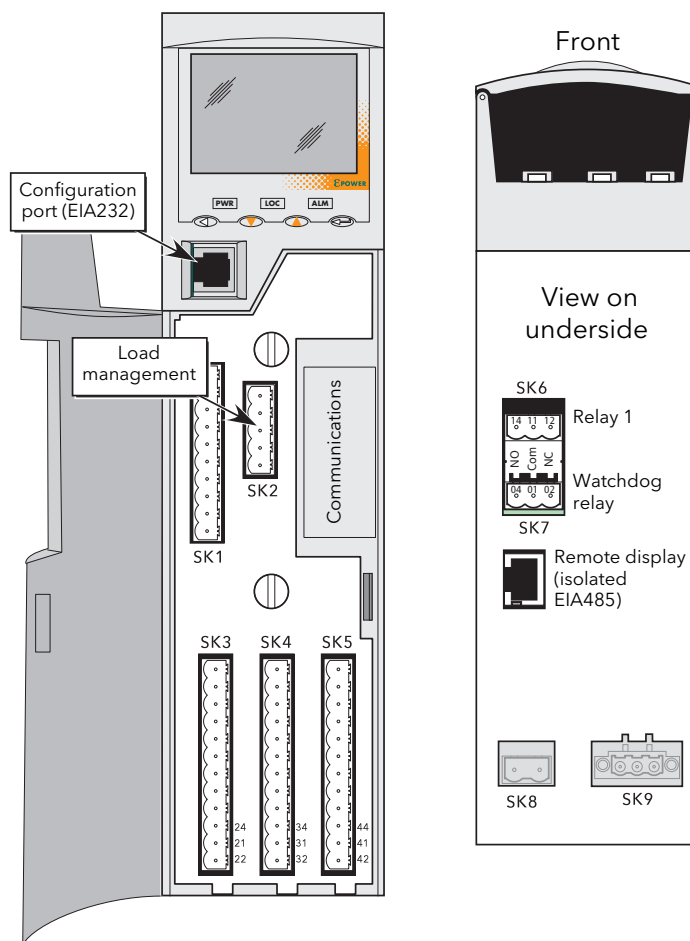
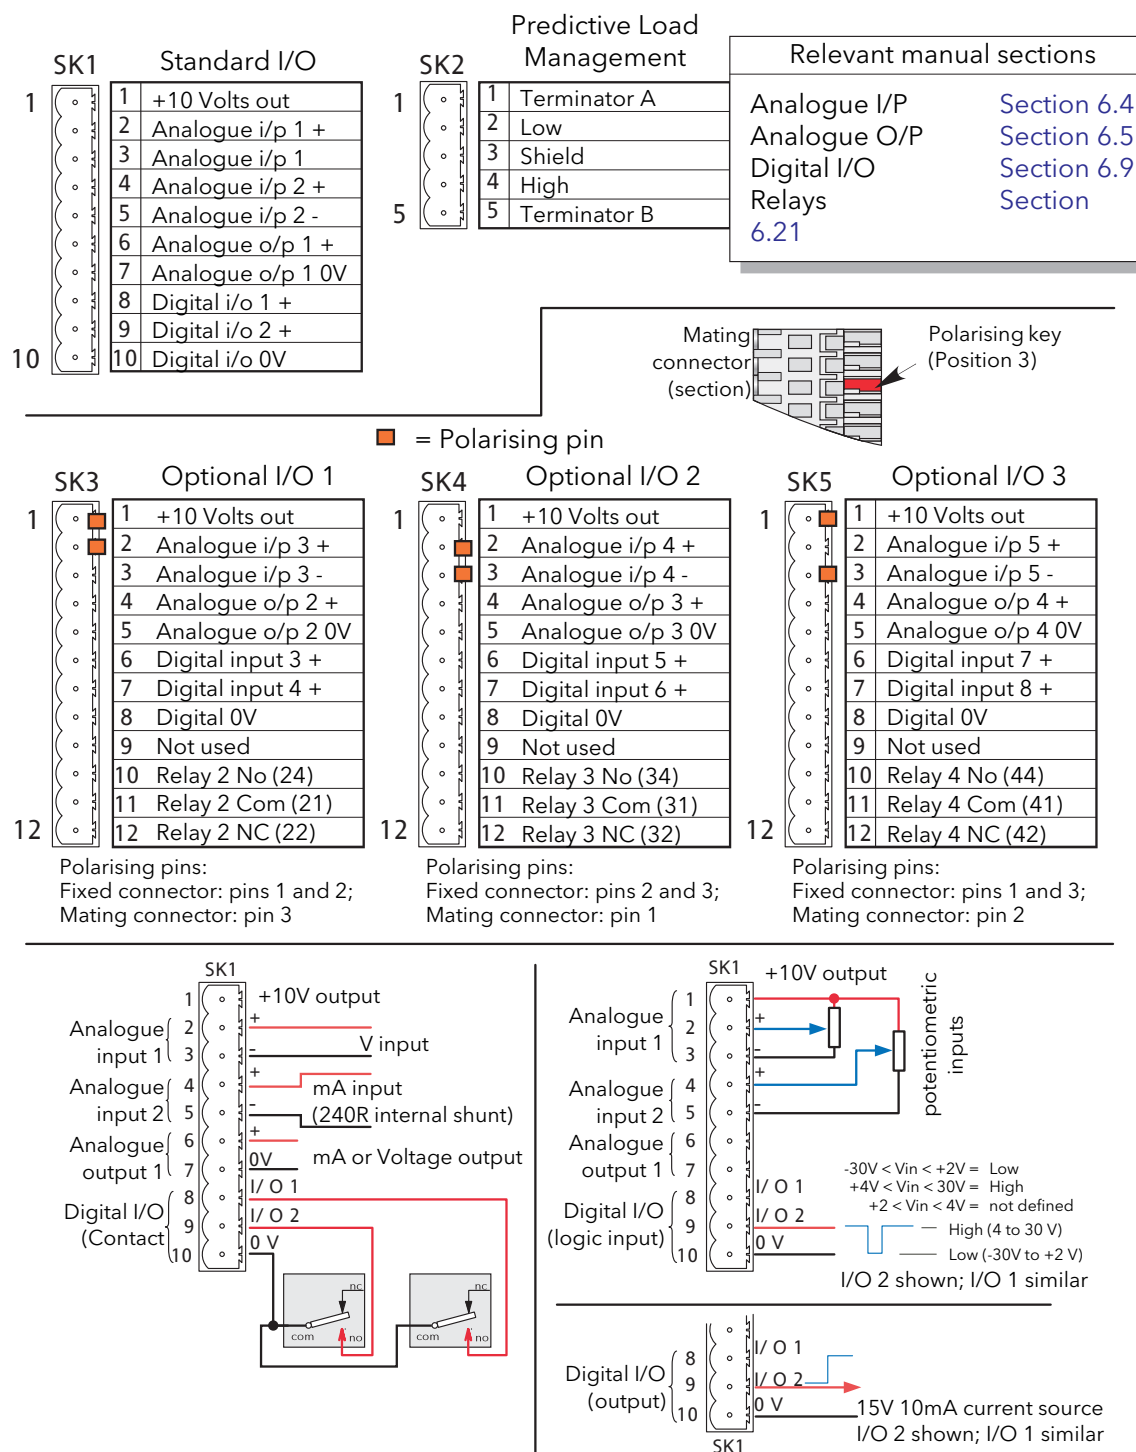
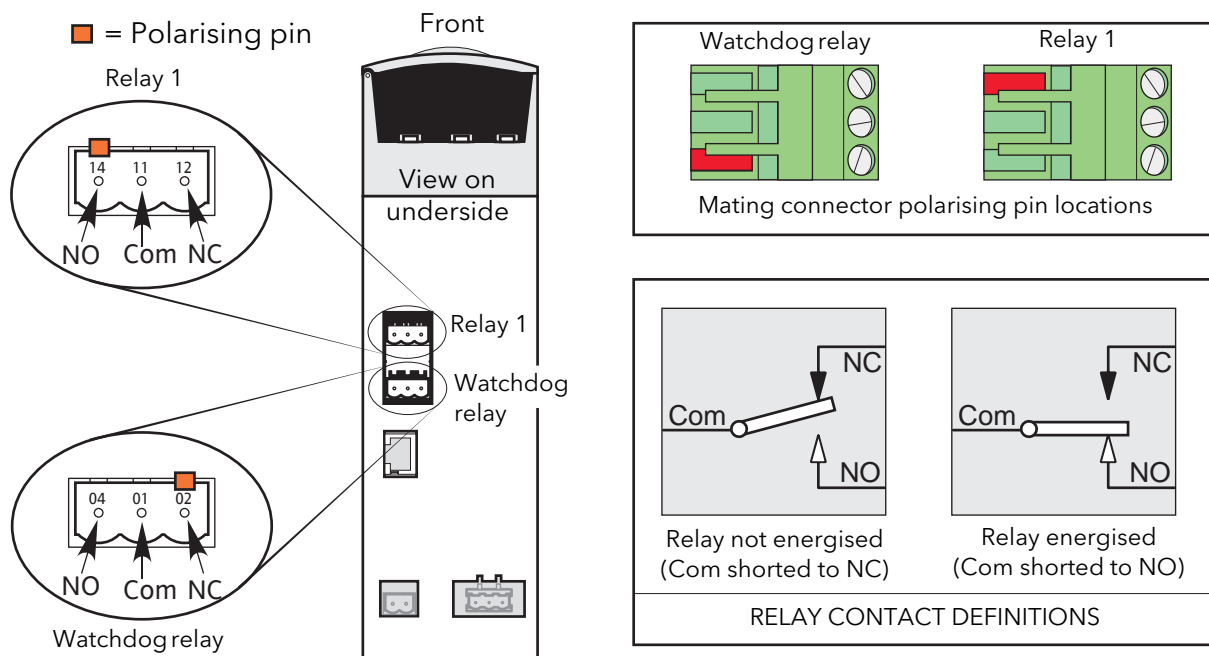

Figure 2.2.1b Connector locations
Figure 2.2.1c Drive unit connector pinouts
Figure 2.2.1d Relay connector location and pinout.
In order for the power module thyristors to operate, the Enable input to the driver module must be valid. In the default configuration, this is achieved by shorting pins 8 and 10 of SK1 (Digital input 1 - figure 2.2.1b), or by using a User Value block to apply a logic high to the enable input to the relevant firing block in iTools. If required, DI1 can be reconfigured as a voltage input, and in this case it requires a high signal (figure 2.2.1c) to be applied to SK1 pin8 with the relevant zero voltage connected to pin 10.
Figure 2.2.1b shows the location of the various connectors; pinouts and typical wiring for SK1 (fitted as standard) are shown in figure 2.2.1c. Wiring for optional I/O units (SK 3 to SK5) is similar, except that they contain a relay in addition to the analog and digital circuits, and the digital circuits are inputs only.
The 'watchdog' relay is wired to a connector on the underside of the Driver Module (figure 2.2.1d).
This relay, supplied as standard, is located adjacent to the watchdog relay (figure 2.2.1d). The energisation/de-energisation of the relay coil is under software control and is fully configurable by the user. The terms Normally open (NO) and Normally closed (NC) refer to the relay in its de-energised state. Up to three further relays are available if optional I/O Modules are fitted (see figure 2.2.1c).
This option allows a number of systems to communicate with one another to allow load management techniques such as Load Sharing and Load Shedding to be implemented. The connector is located as shown in figure 2.2.1b.
This RJ11 connector located on the front of the Driver Module (figure 2.2.1b) is used for direct connection to a PC using EIA232C standard.